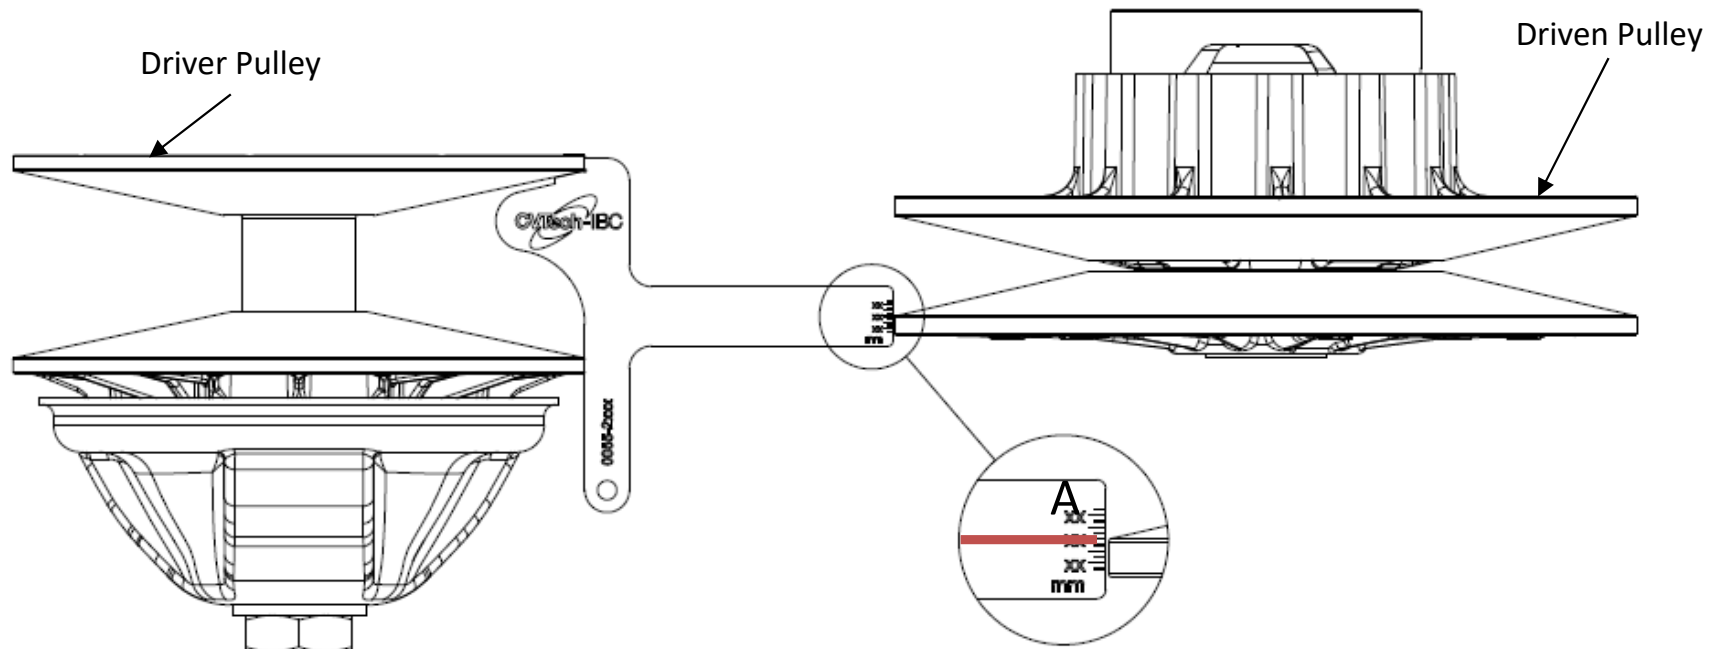

Figure 12
- After completing the installation, check the alignment between the pulleys with the alignment tool. Make sure to obtain dimension A (figure 12) and the proper alignment tool part number (refer to owner's manual for both).